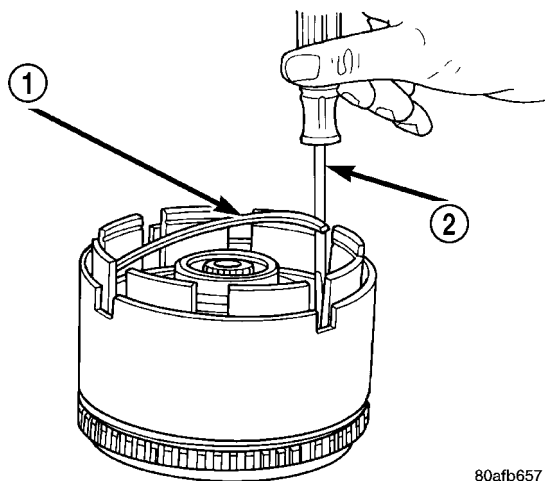

Fig. 251 UD Clutch Flat Snap Ring
(11) Install the UD clutch flat snap ring (Fig. 251).